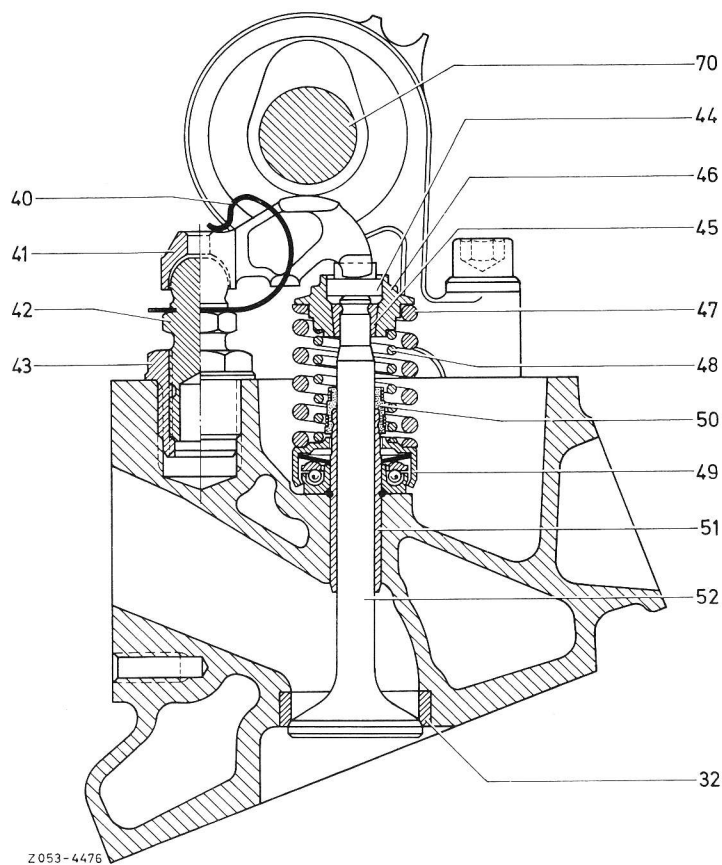

Fig. 5
**14** Mount rocker arm (41) and tensioning spring (40). Make sure that the tensioning springs are correctly seated (Fig. 5).